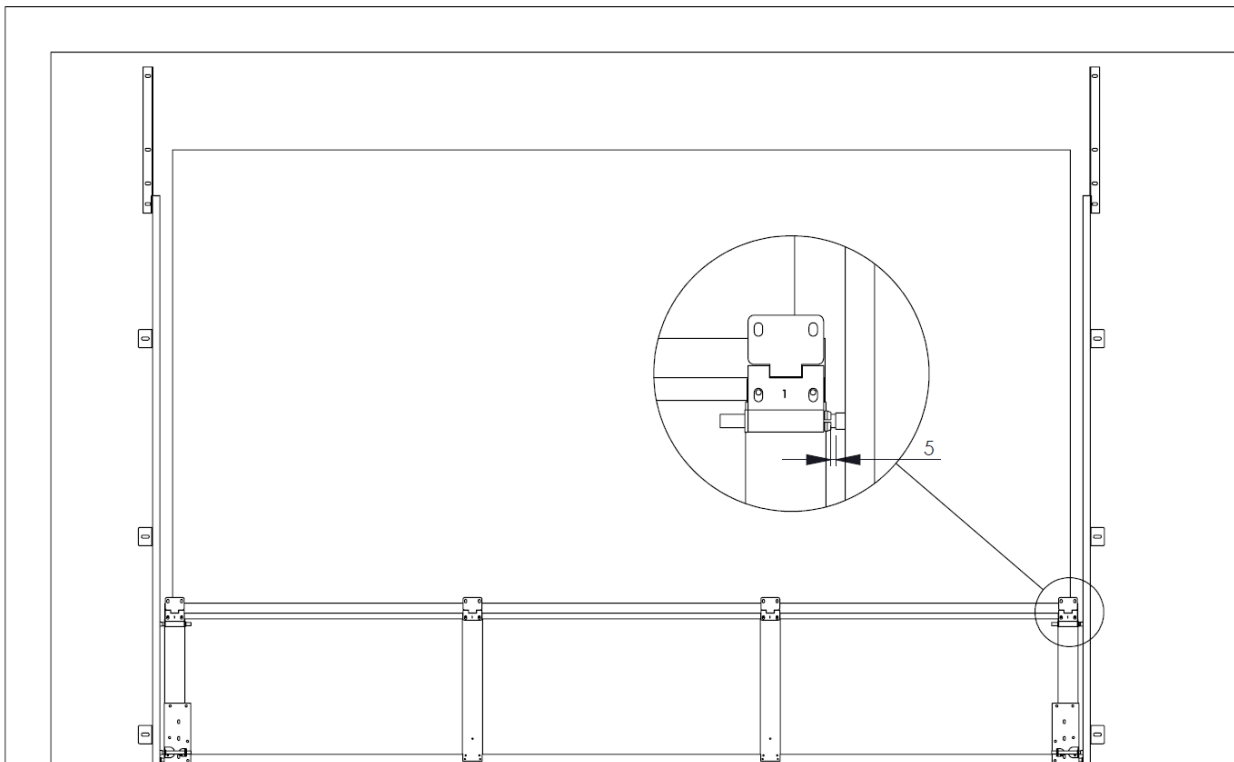

Figure 13
- b. Use spirit level to ensure guide is level. (Figure 13) Fix jamb brackets only.